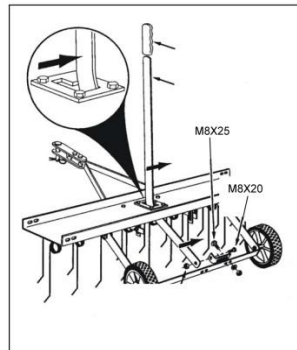

Figure 9
11. Fit one large angle bracket on the wheel axle using two M8x25 bolts, M8 lock washers and M8 nuts. Do not tighten fully yet. Insert the lifting handle in the mounting plate. Attach it to the angle bracket with an M8x20 bolt and M8 nut (fig. 9). Tighten fully.
12. Adjust the angle bracket so that it pulls the lifting handle to the side when it is placed in "up" position (fig. 9). Tighten fully. Now mount the grip on the lifting handle.